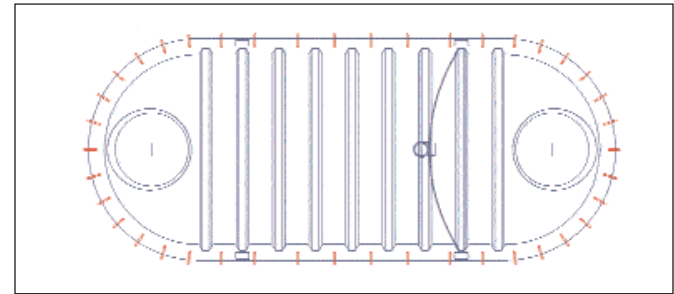

FIGURE 7-7
7.3.5. Begin placing clamps at 6-inch to 8-inch intervals on the dome (11 to 12 clamps per dome) and one clamp between each rib. (See FIGURE 7-7.)